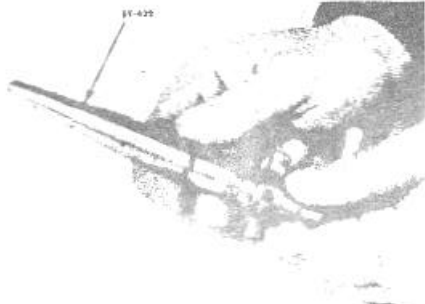
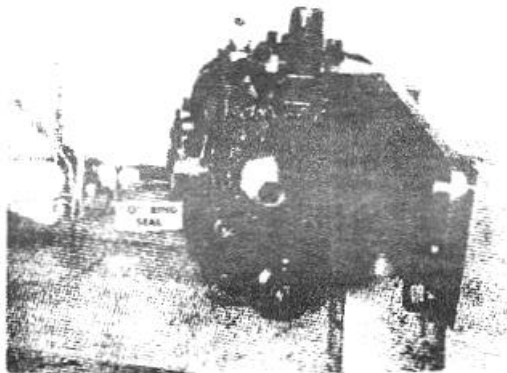
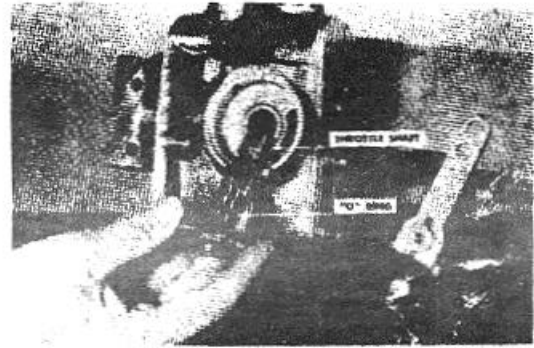

Figure 4-67. Installing throttle shaft "O" ring.
Figure 4-68. Assembling throttle shaft to pump housing-standard pump.
Figure 4-69. Throttle shaft assembly variable speed governed pump.
11. Replace the "O" ring on the throttle shaft using ST-422. Fig. 4-67. Insert the throttle shaft assembly. Fig. 4-68 and Fig. 4-69. Coat assembly with Lubriplate before inserting. The "O" ring must be replaced each time the throttle shaft is removed regardless of appearance.